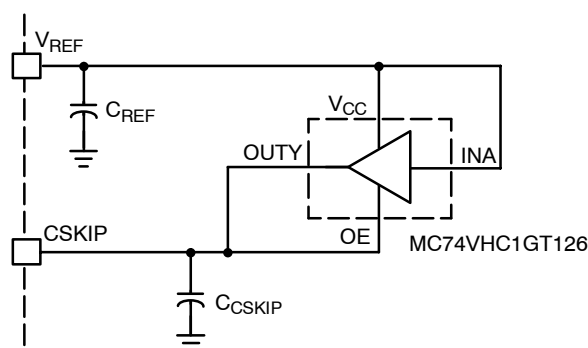

Figure 38. External Latch Implemented using onsemi's MiniGate™ Buffer
The latch in Figure 38 consists of a TTL level tri-state output buffer from onsemi's MiniGate™ family. The enable (OE) and output (OUTY) terminals are connected to CSKIP and the V_{CC} and INA pins are connected to V_{REF} . The output of the buffer is in a high impedance mode when OE is low. Once a continuous current limit condition is detected, the CSKIP timer is enabled and CSKIP begins charging. Once the voltage on CSKIP reaches the enable threshold of the buffer, the output of the buffer is pulled to V_{REF} , latching the CSKIP timer. The OE threshold of the buffer is typically 1.5 V.